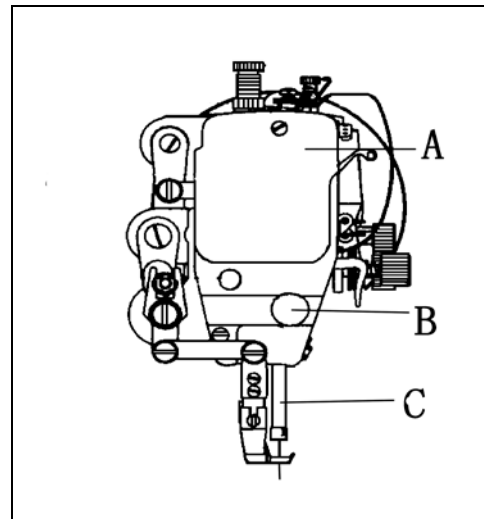
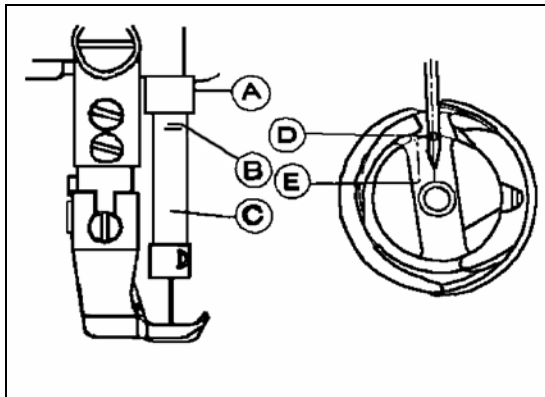

Fig. 17
Fig. 18
15. TIME NEEDLE TO ROTATING HOOK (Fig.17,18,19,20)
A. Adjusting the needle position (See Fig.17)
1) Turn balance wheel by hand to bring Needle Bar (C) to the lowest position of its stroke.
2) Remove rubber plug from Face Plate (A).
3) Loosen Set Screw (B) of needle bar adaptor.
4) Move Needle Bar (C) vertically to adjust needle timing.
5) After the adjustment, tighten Set Screw (B) and put in the rubber plug. The standard needle timing (See Fig.18) is to align Timing Mark (B) on the needle bar and the bottom of Needle Bar Bushing (A) and